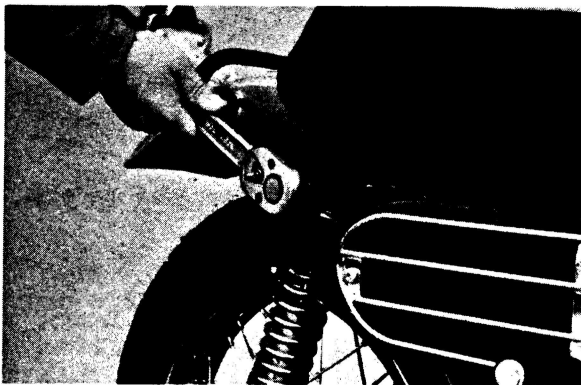

Fig. IV-1-3
- 2) Remove the muffler holding bolts. (Figs. IV-1-3 and 4)